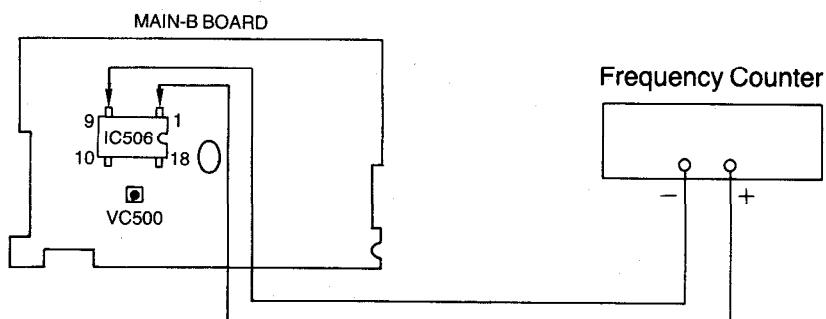

Fig. 15
5. Connect the frequency counter. (See Fig. 15)